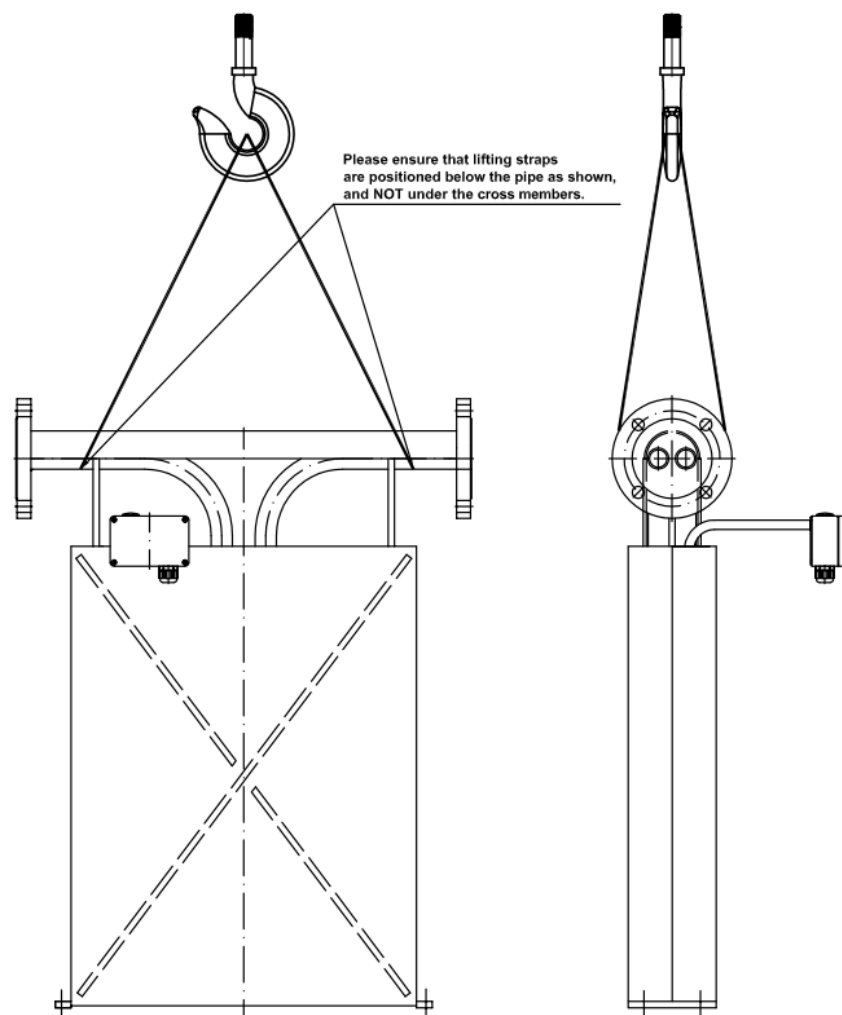

Figure 1: Lifting a heavy meter
- Lift sensors as shown in Figure 1.